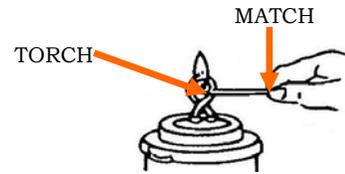

Fig. 2
3. Heat the torch by a glowing match until a flame lights over the torch (Fig. 2).